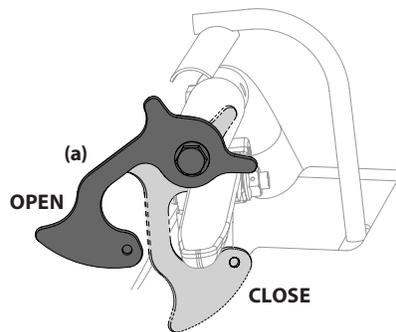

Figure 4-22
3. Move the neutral lock levers (a) to the OPEN position. See Figure 4-22.
5. Move the neutral lock levers into the CLOSED position. See Figure 4-22.
7. CLOSE the neutral lock levers (see Figure 4-22) and move the speed control lever to verify that there is no creeping. If the mower still creeps, try the adjustment again.